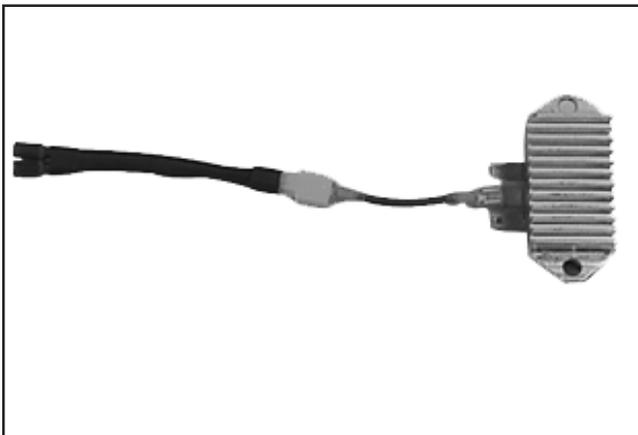

Figure 8-12.
1. Connect the single lead adapter in between the B+ (center) terminal of rectifier-regulator being tested and the squared single end of the tandem adapter lead. See Figure 8-12.